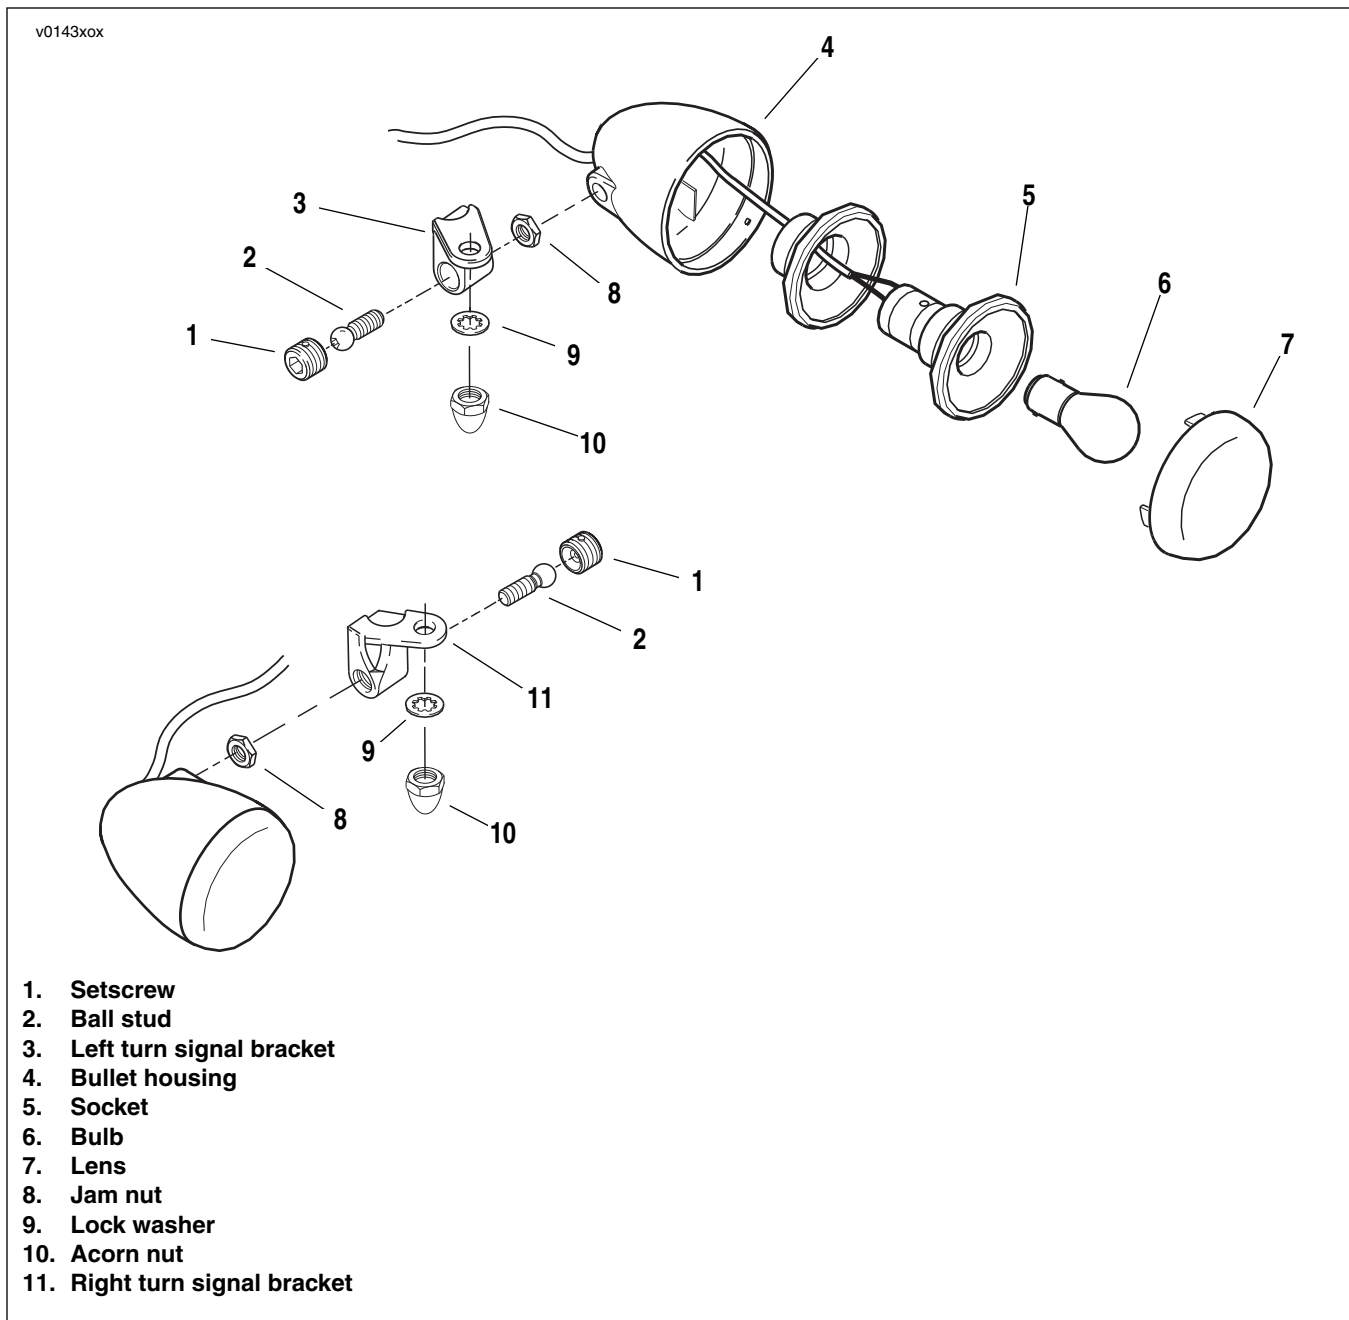

Figure 8-2. Front Turn Signal Lamp Assembly
2. See Figure 8-2. Remove setscrews (1) from turn signal brackets (3, 11).
3. Loosen jam nuts (8).
4. Use a ball Allen wrench to remove ball studs (2).
5. Remove acorn nut (10), lock washer, and left rear view mirror with washer. Discard lockwasher.
6. Remove acorn nut (10), lock washer, and right rear view mirror with washer. Discard lockwasher.
1. See Figure 8-2. Trim back the conduit and strip 1/2 in. (12.7 mm) off the turn signal lamp wires from the handlebars grommet inside the control housings.
2. Strip 1/2 in. (12.7 mm) of insulation off wires of the **new** turn signal bullet housing assemblies (9) and thread them through into grommets in control housings.
- a. Assemble right turn signal bracket (11) to mirror and small washer with **new** lock washer (9) and acorn nut (10).
- b. Install ball stud (2) through thru signal bracket (11) from inboard side.
- c. Thread on jam nut (8) all the way onto ball stud (2).
- d. Thread ball stud (2) into bullet housing (4).
- e. Finger tighten jam nut (8) against bullet housing (4).
- f. Install but do not tighten setscrew (1) into bracket (11).